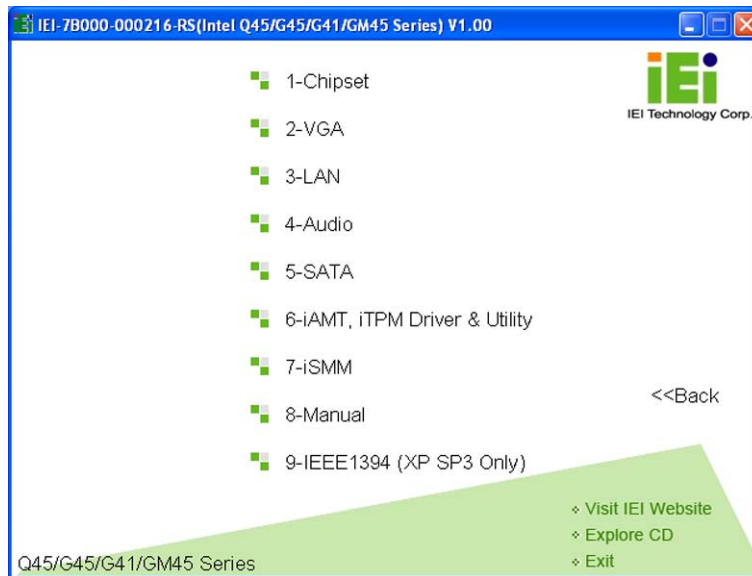

Figure 4-16: Available Drivers
Step 4: A new screen with a list of available drivers appears (**Figure 4-16**).